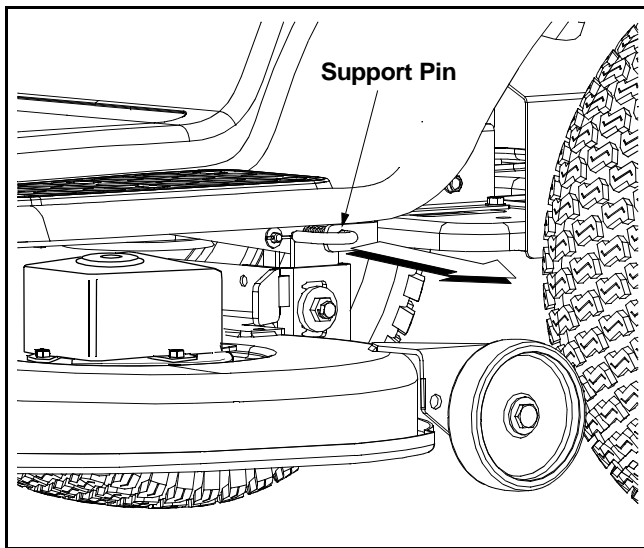

Figure 26
- Looking at the cutting deck from the left side of the tractor, locate the deck support pin on the rear left side of the deck. Refer to Figure 26.
- Pull the deck support pin outward to release the left side of the deck from the deck lift arm. See Figure 26.